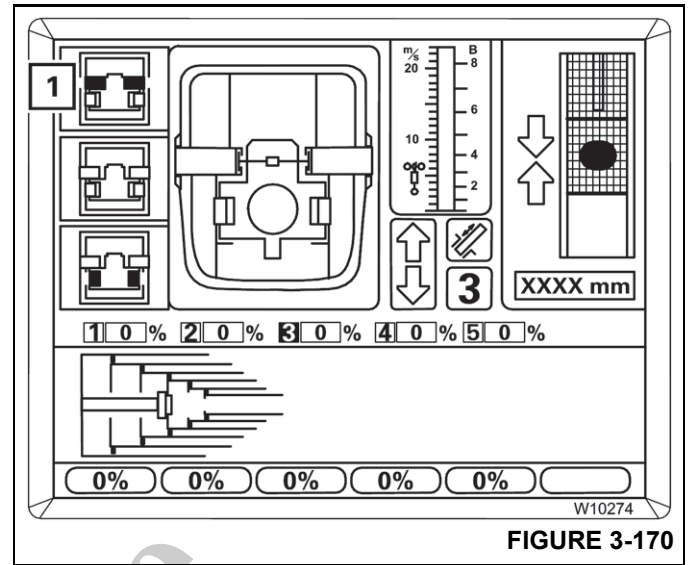

FIGURE 3-170
If the symbol (1) (Figure 3-170) is still flashing after approximately 10 seconds, this means that the section locking pins are under load.